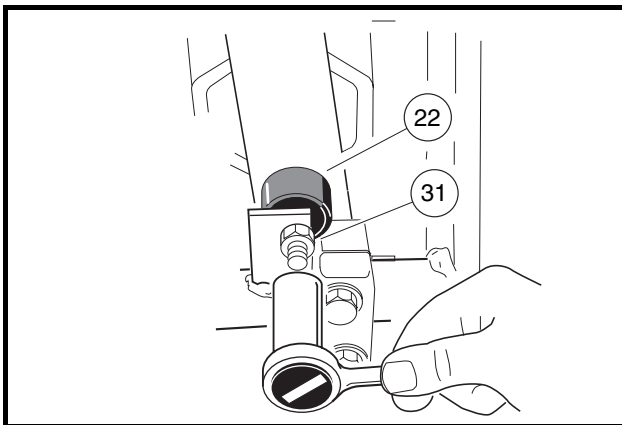
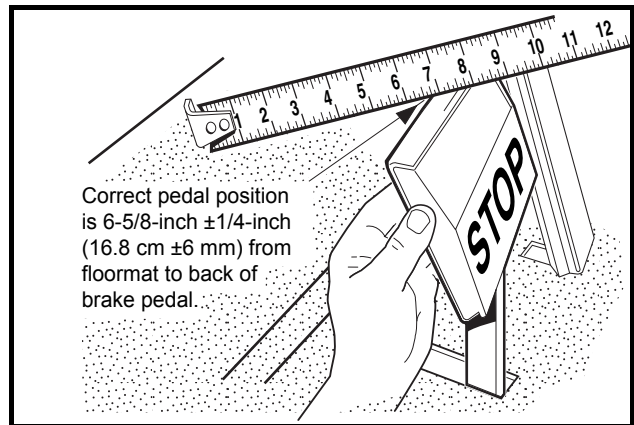

Figure 5-4 Adjust Brake Pedal Height
Figure 5-5 Measure Brake Pedal Height
3. Loosen, but do not remove, the brake stop jam nut (31) (Figure 5-4, Page 5-3).
4. Pull the brake pedal toward the rear of the vehicle until the brake stop bumper will not allow the pedal to travel any further (Figure 5-5, Page 5-3).
6. Adjust the brake stop bumper (22) up to decrease the distance between the pedal and the floorboard, or down to increase (Figure 5-4, Page 5-3). Proper brake pedal height is 6-5/8 inches \pm 1/4-inch (16.8 cm \pm 6 mm) (Figure 5-5, Page 5-3).
7. Tighten the jam nut (31) to 8 ft-lb (9.5 N-m) (Figure 5-4, Page 5-3).